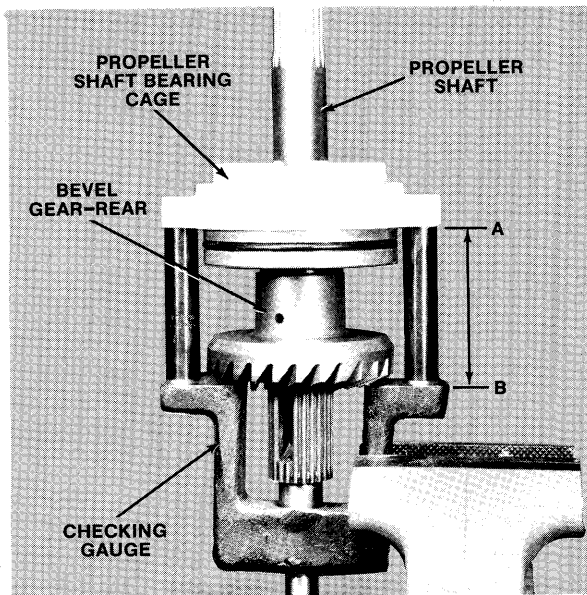

Figure 13—Checking Gauge
- B. The bevel pinion position is fixed; therefore, the adjustment is made by holding a set dimension from bevel gear—rear to the machined surface under screw bosses of prop shaft bearing cage. This is accomplished by proper use of a checking gauge. The distance from point A to point B is this dimension with a tolerance of $\pm .001$. See figure 13.